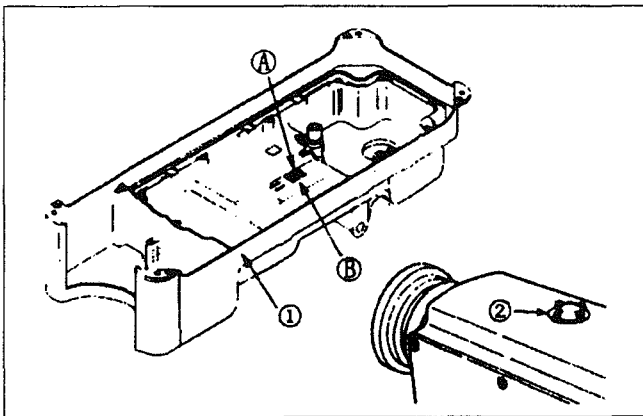
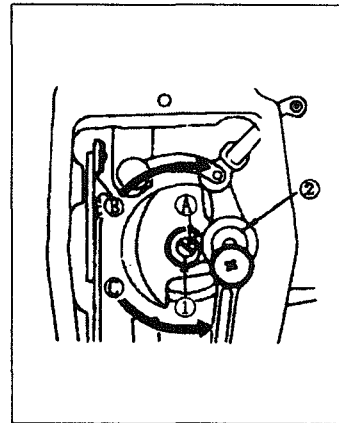

Fig.5
Fig.6
2.LUBRICATION (Fig.5, Fig.6)
● Information on lubrication (Fig.5)
● Adjusting the amount of oil supplied to the face plate parts (Fig.6)